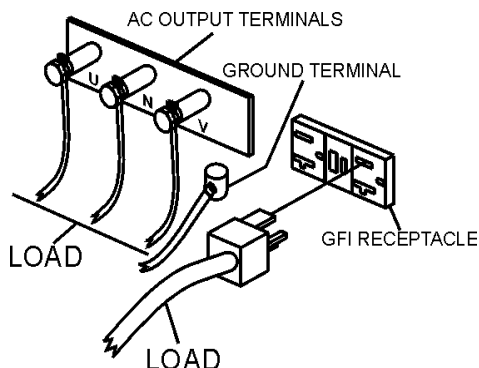

Figure 20. UNV Terminal Lugs (Load)
2. Once it is determined if commercial power is required, connect the load to the UNV terminals as shown in Figure 20. These terminals can be found on the output terminal panel, see page 38 Figure 12. To gain access to the output terminals lift the UNV cover. Make sure to tighten terminal nuts securely to prevent load wires from slipping out.
6. Remove the load from the UNV terminal strip (Figure 20).